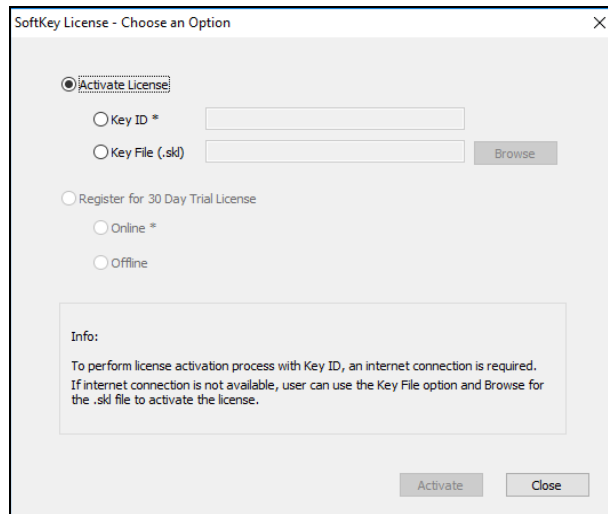

Figure 13. Activate License
- a. From the **Choose an Option** page (Figure 13), select **Key ID**.
- b. From the Choose an Option page (Figure 13), select Key File (.skl).